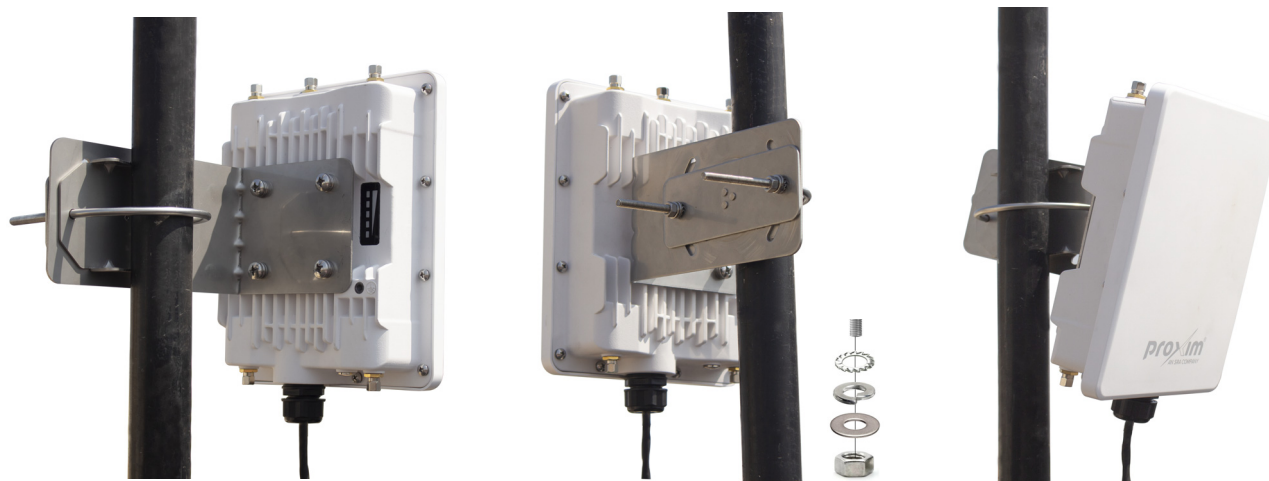

Figure 4-3 Pole Mounting (Edge 1015 and 1025)
2. Insert the Toothed Washer, Spring Washer, Flat Washer and Nut on both ends of the U-bolt as shown in Figure 4-3.
4. While installing the device, make sure that the device Ethernet port with cable installation (using cable gland) faces downward only as shown in Figure 4-3 below